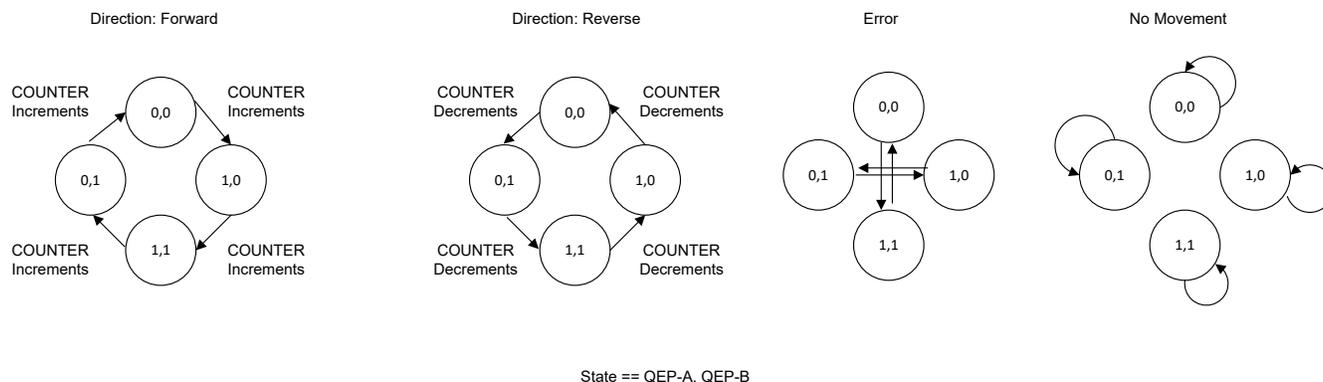

Figure 5-2. QEP-A, QEP-B State Diagrams
- The QEP-A/B phase indicates the direction of movement. If the rising edge of QEP-A leads by 90 degrees, then the movement is forward (clockwise). If the rising edge of QEP-A lags, then the direction is reverse (counter-clockwise). This is illustrated in Figure 5-2.